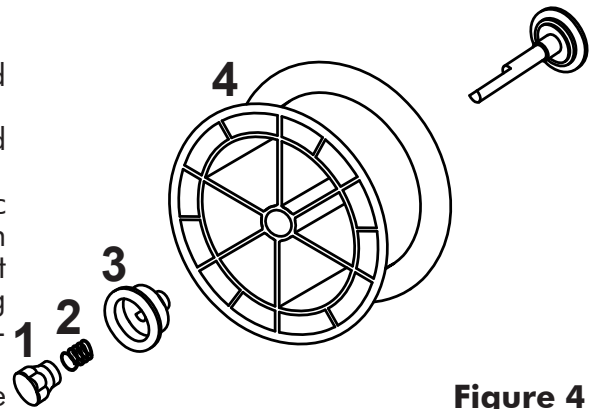

Figure 4
- Loosen the nut (1) of the spool holder (brakedrum) and remove the spring (R) and the external ring (3). (Fig.4)
- Remove the plastic protection from the spool (4) and place it on the spool holder.
- Mount the external ring (3), the spring (2) and the plastic lock nut (1) again. These parts form the braking system of the wire spool speed. NOTE: Do not tighten the nut too much, excessive pressure strains the wire feeding motor, while too little pressure does not allow the immediate stop of the wire spool at the end of the welding.